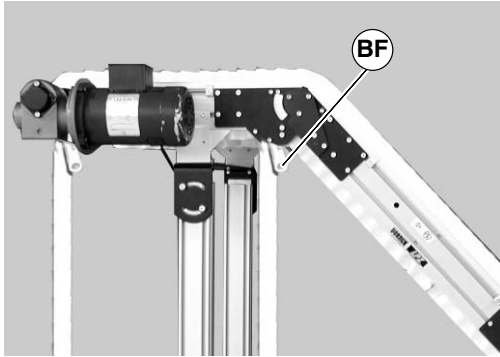

Figure 46
2. Place temporary support (BF of Figure 46) under conveyor sections.